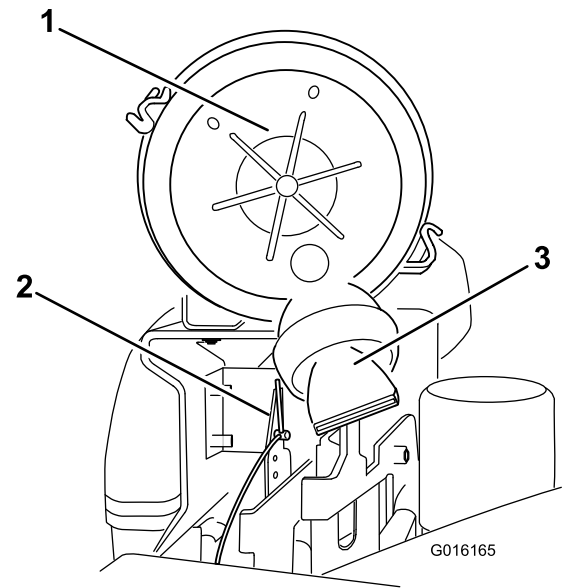

Figure 46
4. Position the air-cleaner cover, so that the breather valve does not interfere with the throttle mechanism (Figure 46).